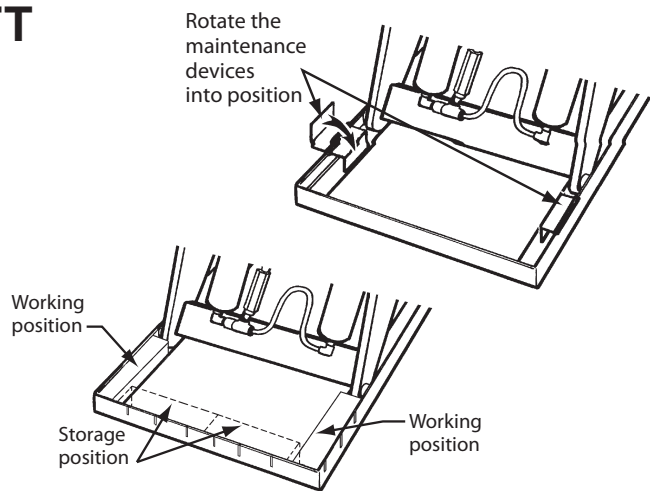

Figure 1 – Safe Servicing of Lift
3. Remove the maintenance device(s) from its/their storage location and place it/them into the engaged position as shown in Figure 1. (Note: further information may be useful here to provide additional instructions as to the location and method of storage and engaged positions).